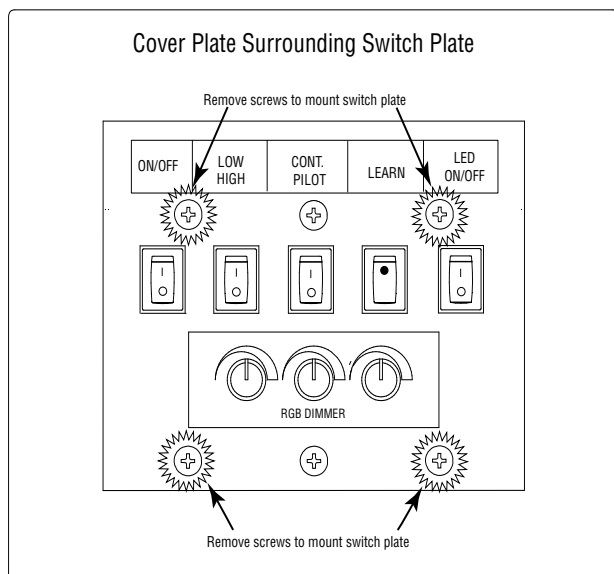
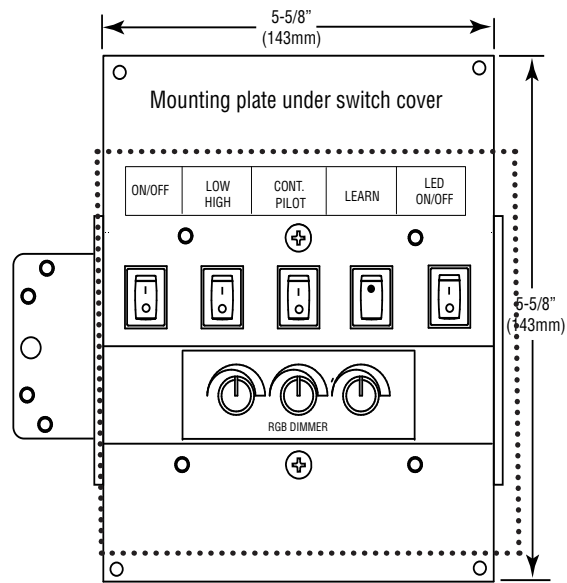

Fig. 24 RGB control box with 8 3/4" x 8 3/4" cover plate.
Fig. 25 RGB control box mounting plate
Step 11: Remove the RGB control box from the components parts carton. Find a suitable location within a close proximity of the fireplace for convenience of operation and mount the control box upright and level as shown in Fig. 26, page 21. Use Figs 24 & 25 for dimensional reference. The fireplace is supplied with 10-feet of wiring for the RGB control box (switches and dimmer) installation. **Note:** If desired, you can purchase 10-foot wire extensions in the accessories section that will enable you to move the RGB control box up to 50-feet away from the fireplace. **CAUTION:** Ensure all switches are in the OFF position. “I” indicates ignite/ON and “O” indicates OFF. Learn button does not apply.
Step 12: Remove the four (4) outer screws from each corner inside the cover plate and lift off. See Fig. 24. This will expose the mounting plate. See Fig. 25. **CAUTION:** Do not remove the two center screws from the cover plate. This will release the entire switch box wiring from inside the junction box and make it difficult to reinstall.
Step 13: Find a desired location to mount the RGB control box. Cut a 6" wide x 5 1/2" tall hole into the cement board. See dotted line in Fig. 25. Mount the RGB control box. **Note:** The wires from the switches can be removed for easier installation, if needed. Ensure to match the wires with the labels for each switch when reattaching.